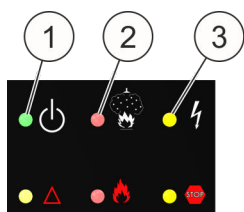

Fig. 52: Blocking
- The upper yellow LED (Fig. 52 /2) lights up.
The lower yellow LED (Fig. 52 /3) also lights up if a door fitted with a door contact switch is open.
- Prior to removing the blocking, make sure that the upper red LED (Fig. 52 /1) is **not** illuminated as the extinguishing process will otherwise be initiated immediately.